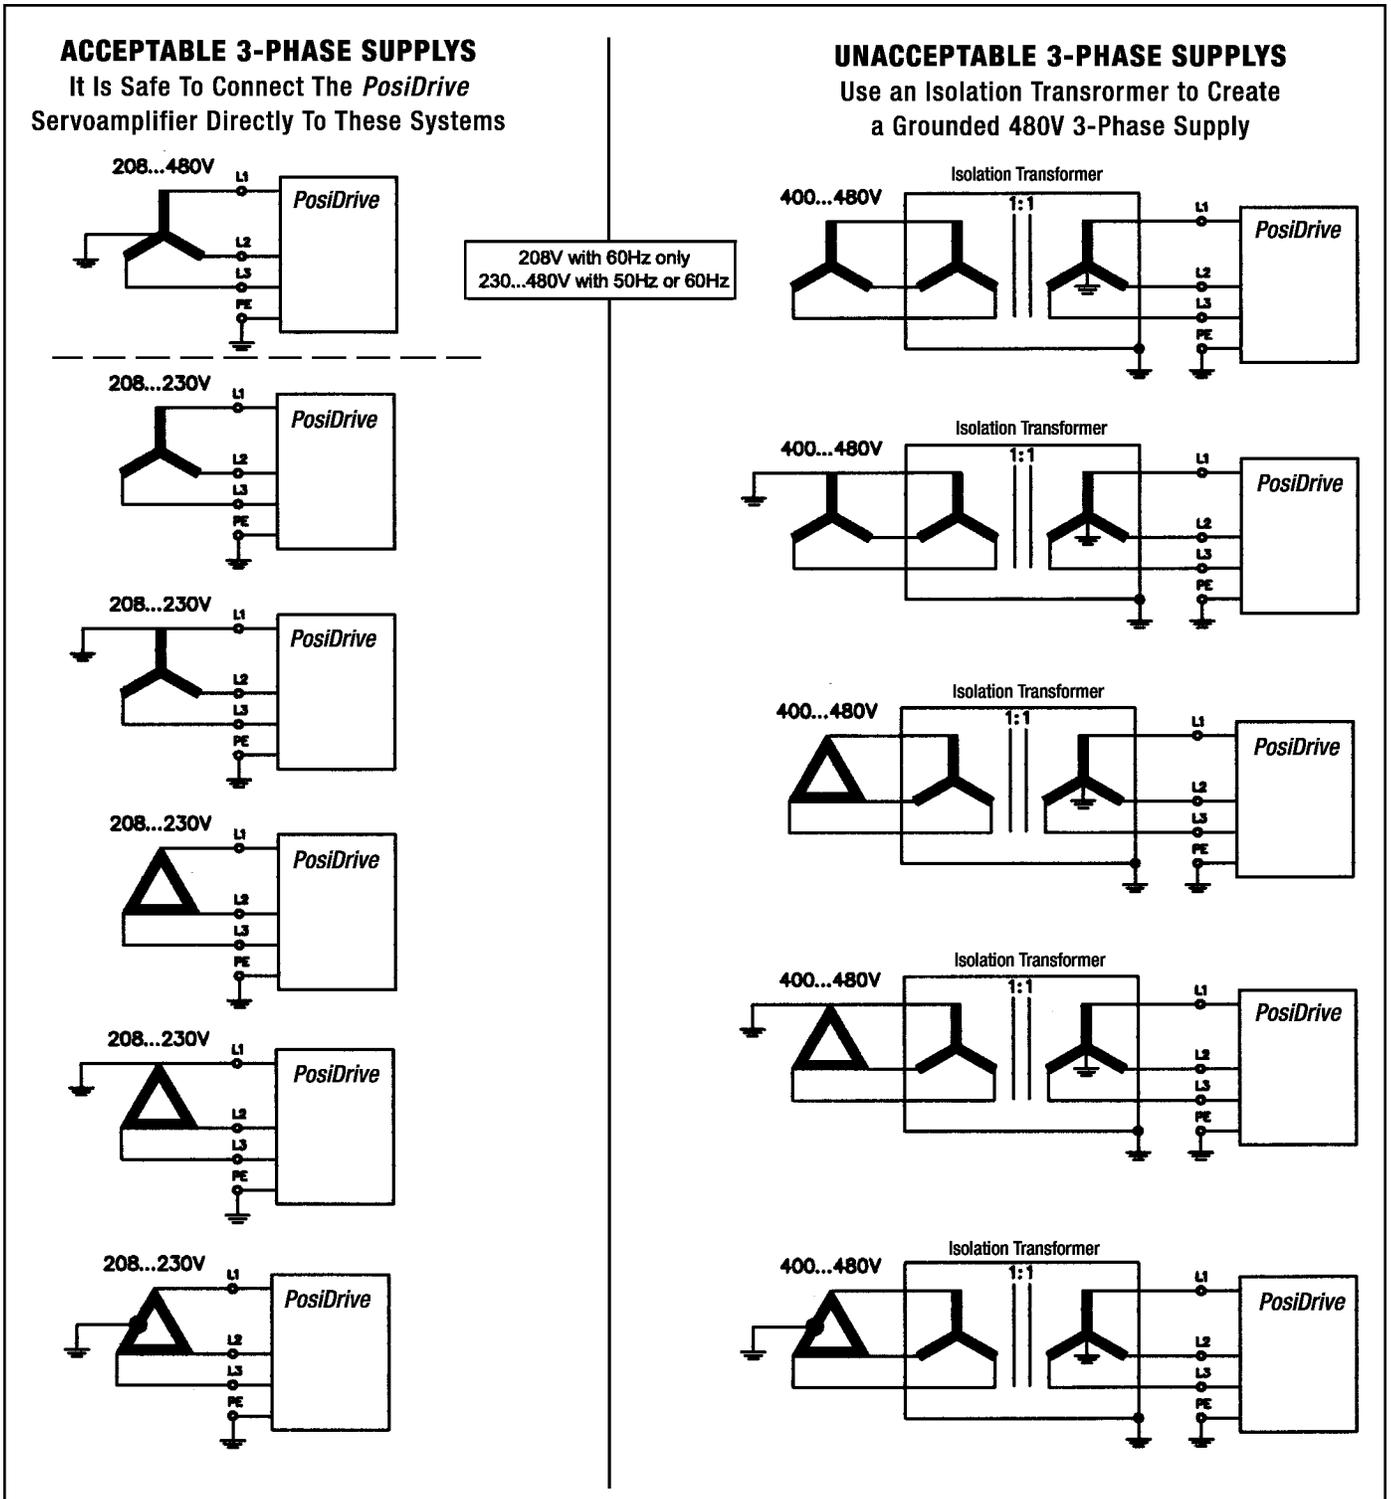

Figure 7.1 - Connecting To Different 3-Phase Systems Schematics
*Figure 7.1* on the next page shows schematics of the various Acceptable 3-Phase Electrical Systems. The right hand column also shows how to connect an Isolation Transformer to protect the drives if your power system is ungrounded or asymmetrically grounded.
On Figure 7.1 you will find all possible connection variations to different Electrical Networks